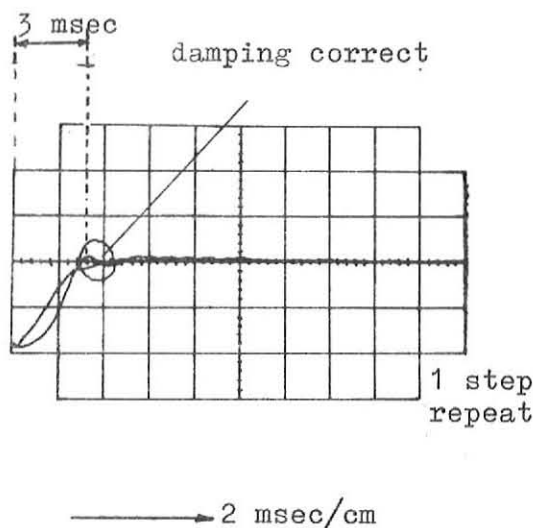

Fig 7-12
- 15) Start positioning over the next distance, and check the incidence shown in fig. 7-12&7-13 for scope adjustment see point 13.